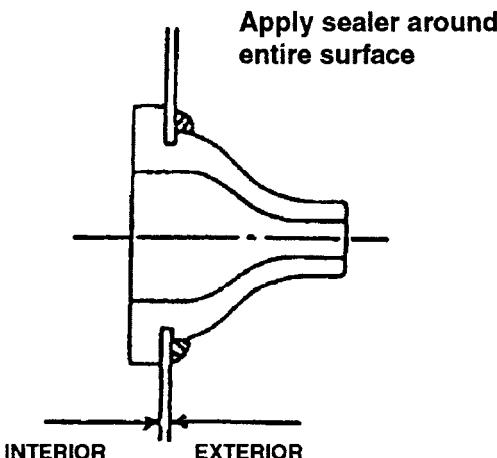

Figure 4
Apply sealer to surface between SRS wire harness grommet and body panel (as shown in Figure 4), to prevent water entry.
5. Install the license plate bracket (as shown in steps 1 and 2) and tighten the two 6 X 20 mm bolts supplied (Fig. 4).